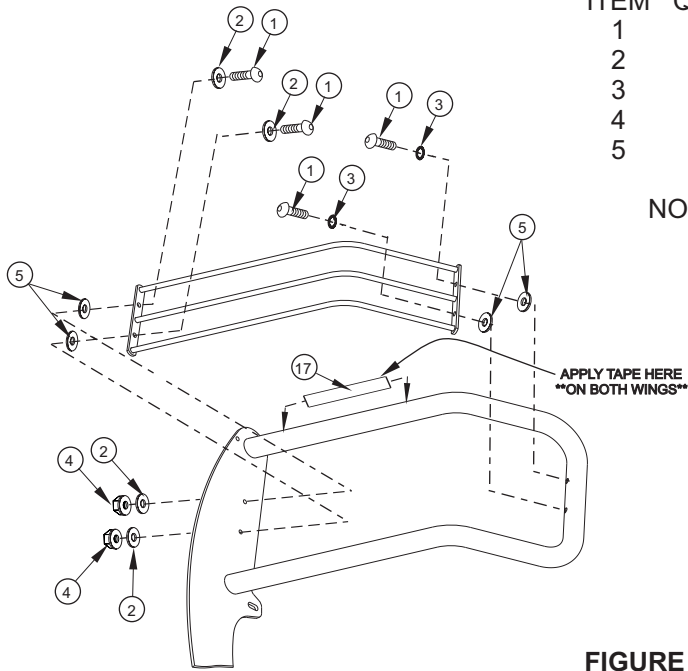

FIGURE 1
- STEP 2. Attach light guard assemblies as shown. **SEE FIGURE 1.**
- STEP 7. For chrome assemblies. If light glare is being experienced off the wings of the Sportsman, anti-reflective tape has been supplied to reduce glare. With headlights on, note where the reflection is concentrated on the wing. Clean the wing well with a non-abrasive cleaner (rubbing alcohol works the best.) Trim the anti-reflective tape to the appropriate size where the glare was located and apply tape. **SEE FIGURE 1.**